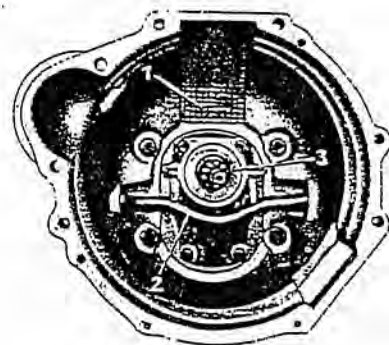

Fig. 25-15/8
18. Check the graphite ring (3) of the clutch throw-out bearing to see whether it is still serviceable (Figs. 25-15/8).